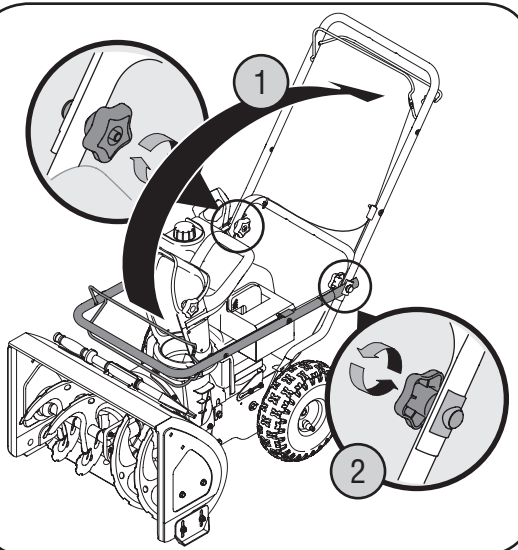

Figure 3
3. Hold both controls against upper handle and pull up as shown in Step 1 of Figure 3. Make sure that the upper handle locks over the lower handle and handle tabs align with the handle. You may have to carefully maneuver the upper handle to clear chute assembly.
4. Tighten the handle knobs on each side of the handle. Refer to Step 2 in Figure 3.